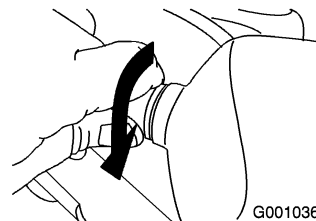

Figure 54
5. Turn the base of the bulb clockwise until it is snug (Figure 54).